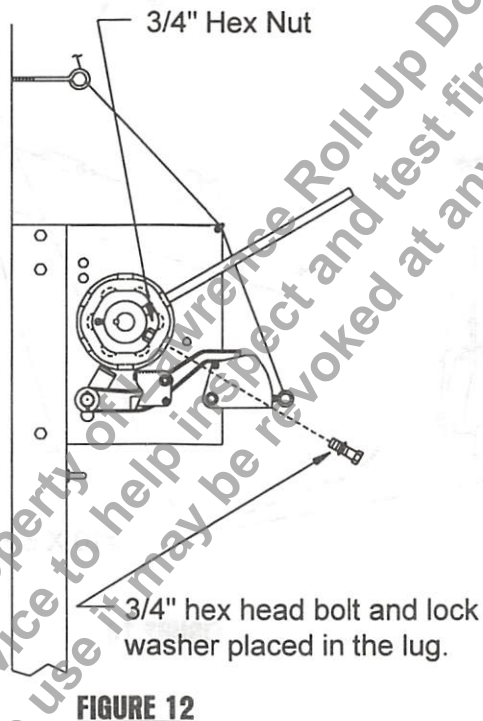
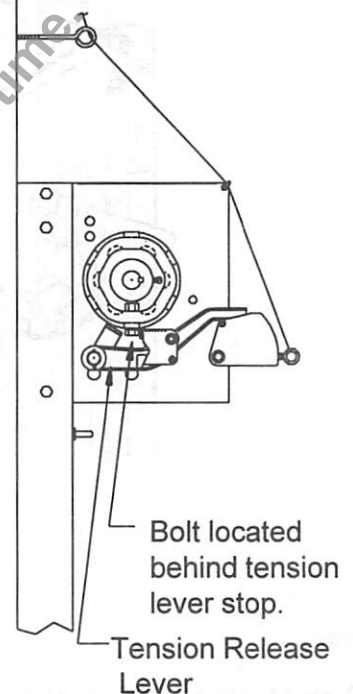

FIGURE 12
FIGURE 12A
Step 12. While maintaining the tension, place the 3/4" diameter bolt in the tension wheel as shown in figure 12. Continue to wind the tension wheel so the correct number of turns is obtained when the bolt is positioned behind the release lever as shown in figure 12A.